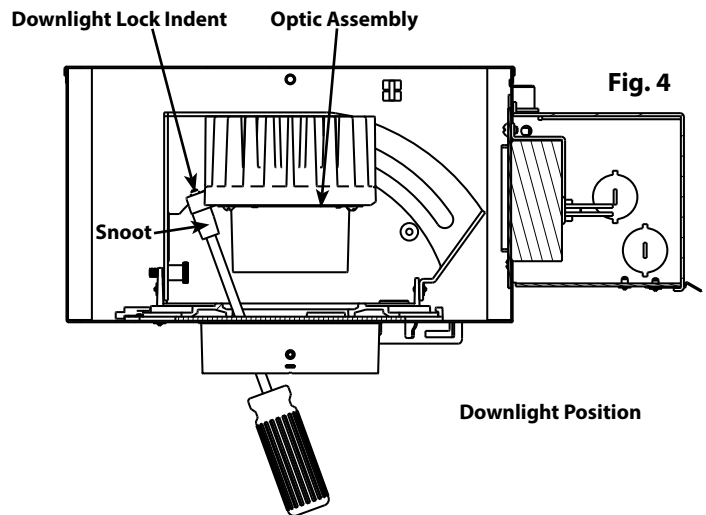

Fig. 4
**NDICLED3 ships preset in standard Downlight Position (Fig. 4). To make adjustments, a screwdriver with a maximum shaft diameter of 3/16" is required.**